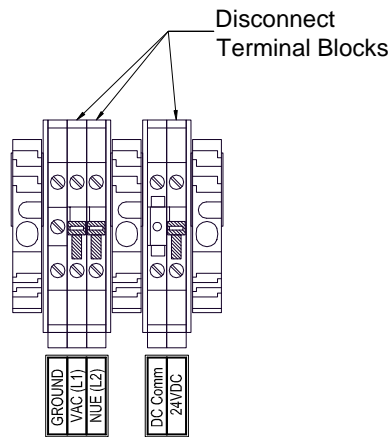

Figure 4 AC/DC Inputs
Connect 100-120/220-240VAC input wiring to the terminals located on the back of the enclosure, labeled “VAC (L1)”, “NEU (L2)”, and “GROUND” (See Figure 4). The power supply for the MCX-32-N1P is capable of handling AC inputs from 100-120/220-240VAC, 50-60Hz without degradation.
For optional external DC power input, connect 19.2-28.8VDC to the terminals located on the back of the enclosure, labeled “24VDC” and “DC Comm” (See Figure 4). This input can be used for primary power or back-up power in the event of an AC power failure. The DC input voltage should be capable of delivering at least 5 Amps of current to the load (120 Watts @ 24VDC). This voltage can come from an external 24VDC supply or a battery back-up. If batteries are directly connected to this input, the unit has the ability to provide the necessary battery charging voltage to the batteries. See Section 5.4.5.6 Power Management Screen for setting up the charging voltage for the batteries.
1. Connect 100-120/220-240VAC input wiring to the terminals labeled “VAC (L1)”, “NEU (L2)”, and “GROUND” (See Figure 4). The power supply for the MCX-32-N4X is capable of handling AC inputs from 100-120/220-240VAC, 50-60Hz without degradation.
For optional external DC power input, connect 19.2-28.8VDC to the terminals labeled “24VDC” and “DC Comm” (See Figure 4). This input can be used for primary power or back-up power in the event of an AC power failure. The DC input voltage should be capable of delivering at least 5 Amps of current to the load (120 Watts @ 24VDC). This voltage can come from an external 24VDC supply or a battery back-up. If batteries are directly connected to this input, the unit has the ability to provide the necessary battery charging